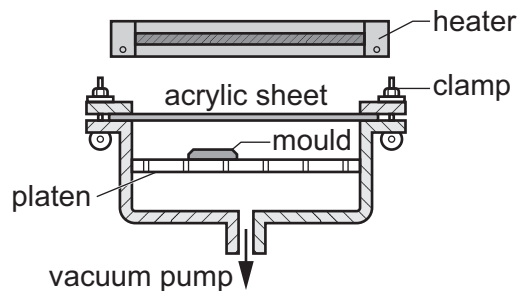

Fig. 12.3
- (f) The base of the clock will be vacuum formed. Fig. 12.3 shows the mould for the base of the clock positioned on the platen, ready to be vacuum formed.